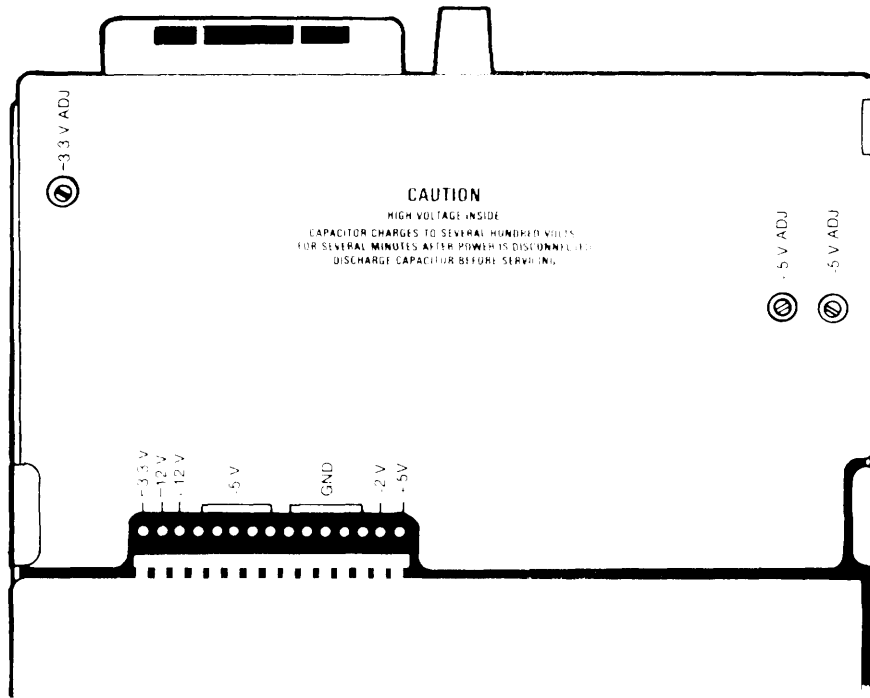

Figure 5-46. 338 Power supply adjustments.
1. Refer to Figure 5-46. Remove the 338 wraparound cover.